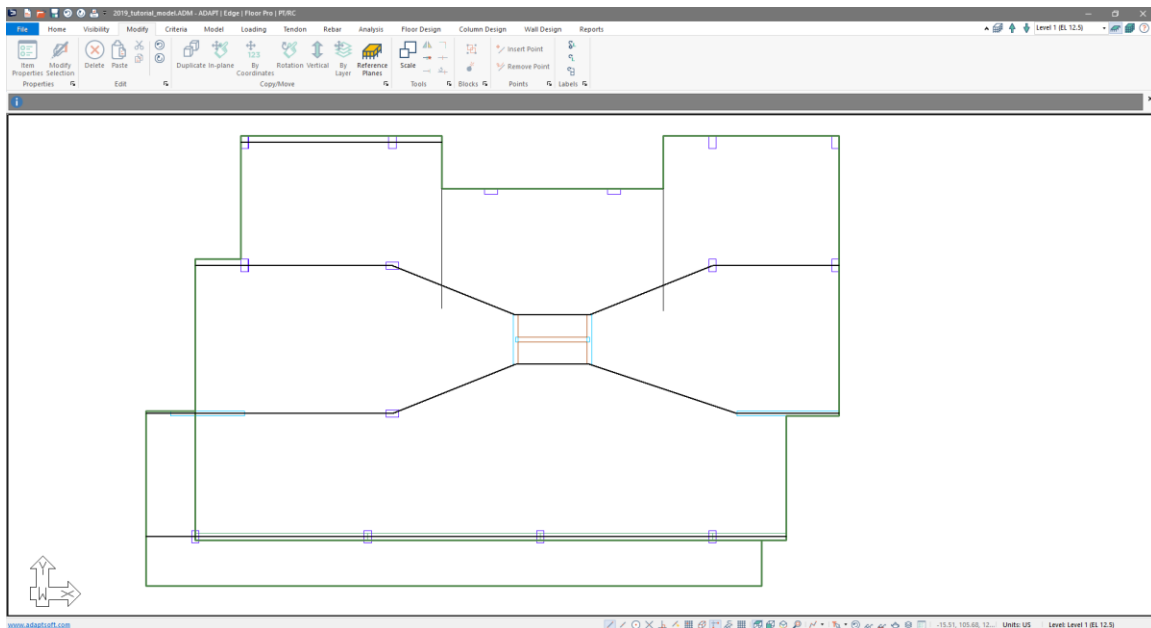

Figure 9-16
- Enter another construction line at the like location to the right using the same procedure as above but this time your first point for the second construction line will start around (115,90.5,12.5). After the second construction line is entered the users screen should appear similar to **FIGURE 9-16**.